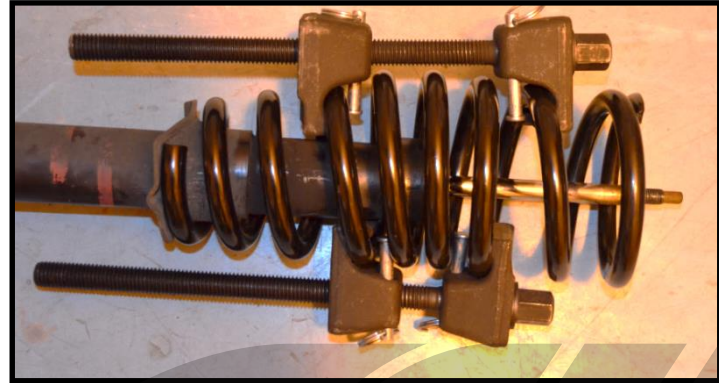

Figure 3a
- Place the tapered end of the spring onto the strut. Shown after installing onto strut in Figure 3a.